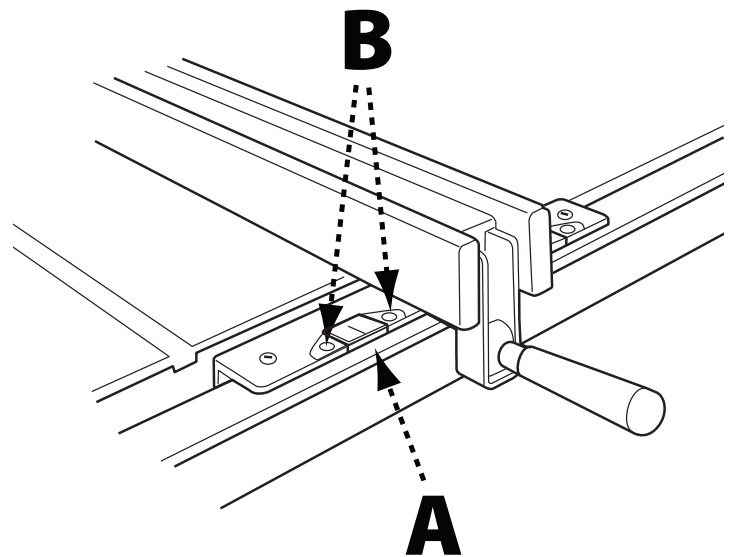

FIGURE 17
The distance the fence is positioned away from the blade is indicated by the pointer (A) (Figure 17). To check the position of the pointer: